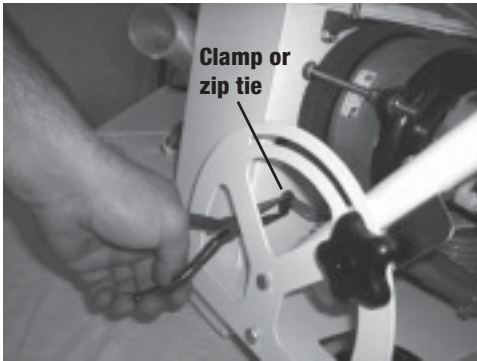

Figure 8: Reclamping float switch's wire jacket
6. Insert new float switch. Moisten float switch's wire jacket before pushing through rubber grommet. Once installed, firmly zip tie wire jacket as shown (fig. 8).